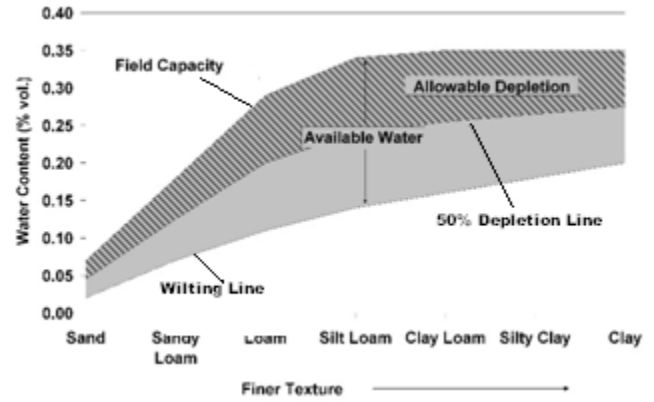

Figure 2. The amount of allowable depletion, or the readily available water, represents about 50 percent of the total available water.
- **Allowable Depletion** (readily available) is the point where plants begin to experience drought stress. Depending on soil type, the amount of allowable depletion for melons is about 50% of the total available water in the soil. (Figure 2.)